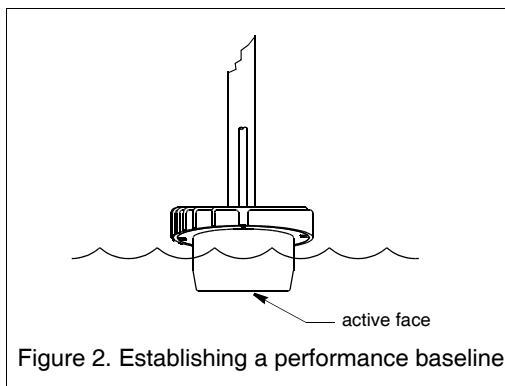

Figure 2. Establishing a performance baseline
3. Tape the transducer to a pole with the cable side up. Hold it over the side of the boat with the active face fully submerged and parallel to the water surface (see Figure 2).